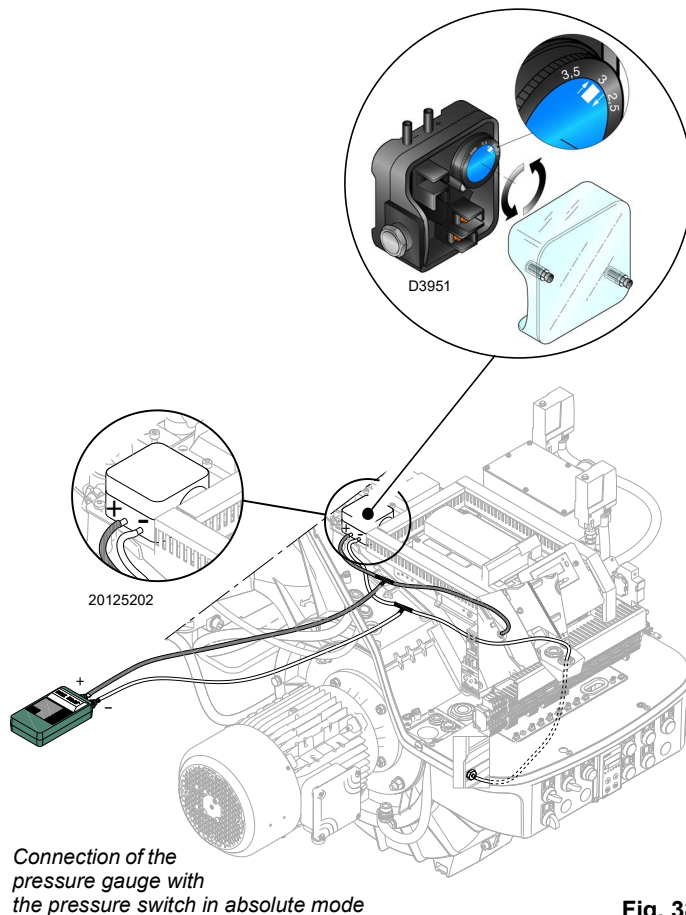

Fig. 38
- Adjust the air pressure switch to the zero position of the scale (Fig. 38 on page 39).
The air pressure switch is connected in absolute mode and is activated by the positive pressure from the fan (Fig. 38).
Adjust the air pressure switch (Fig. 38) after having performed all other burner adjustments with the air pressure switch set to the min. of the scale.